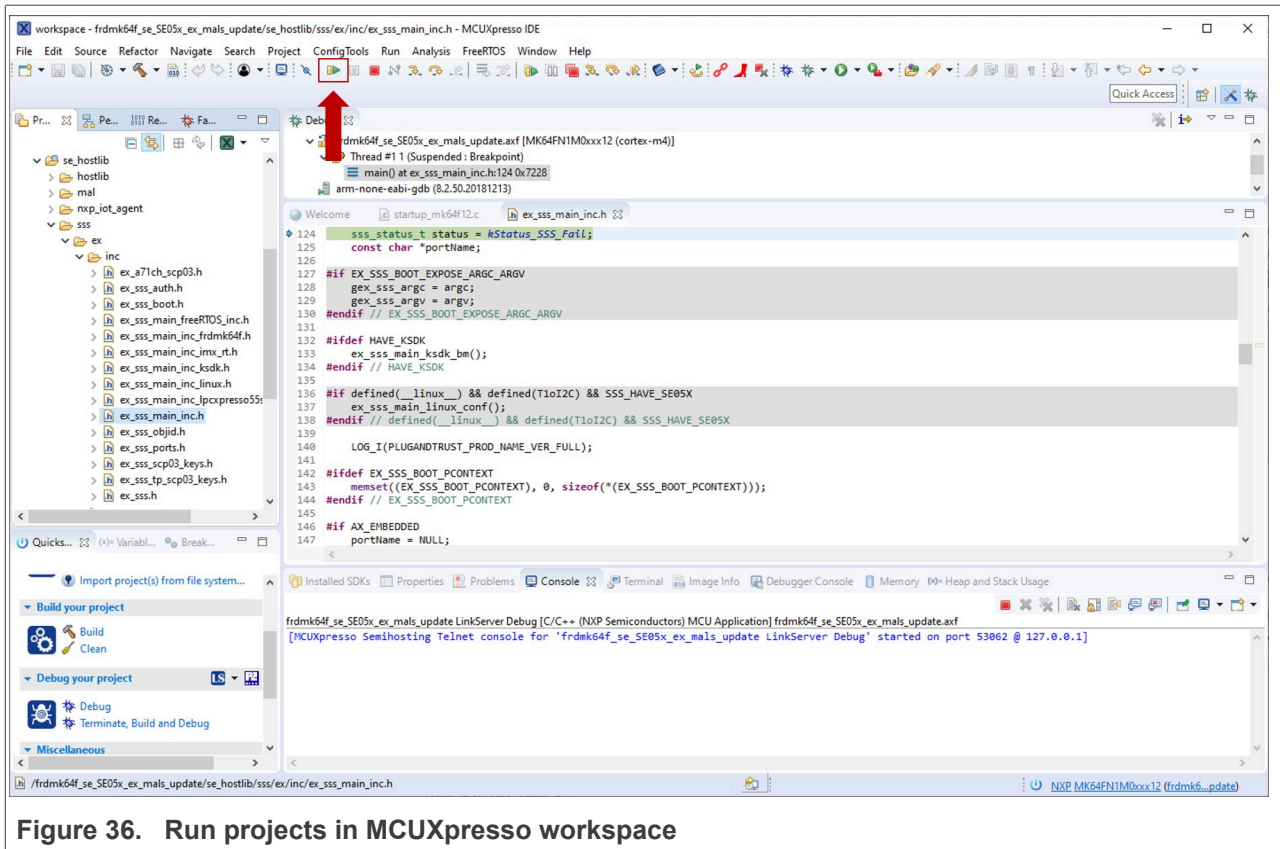

Figure 36. Run projects in MCUXpresso workspace
- When the execution starts, it will automatically stop in a breakpoint. Click on *Resume* to allow the software to continue its execution as shown in Figure 36.